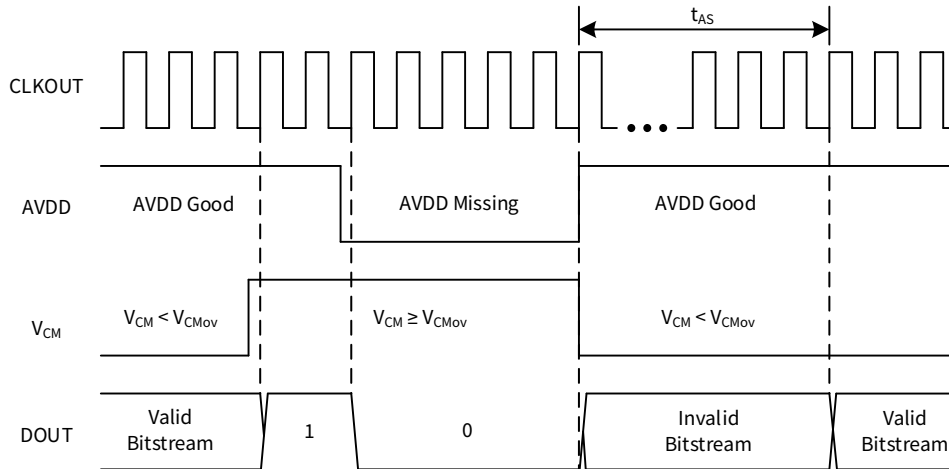
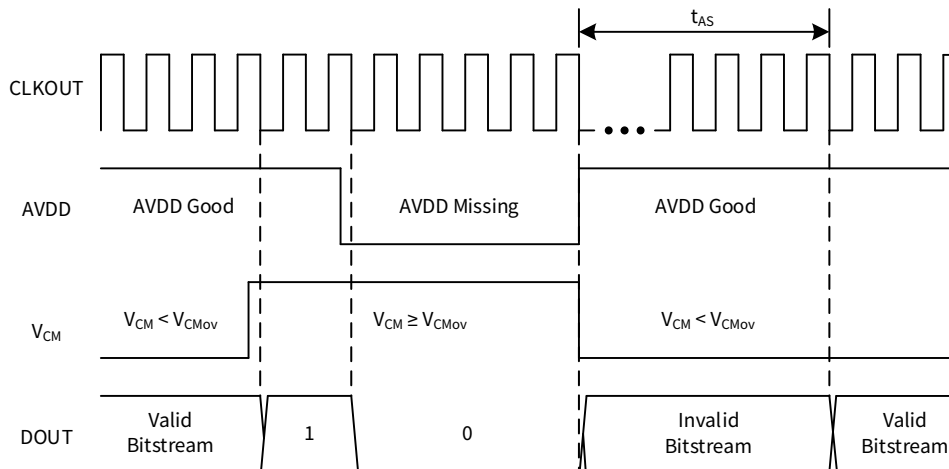

Figure 8.3 Fail-safe Bitstream Output of NSI1303Mx
Figure 8.4 Fail-safe Bitstream Output of NSI1303Dx
- When the undervoltage of AVDD is detected ($AVDD < AVDD_{UV}$), DOUT pin output a uncoded bitstream of all logic zeros, as shown in Figure 8.3 and Figure 8.4.
- When the overvoltage of common-mode input voltage is detected ($V_{CM} > V_{CMov}$), DOUT pin output a uncode bitstream of all logic ones, as shown in Figure 8.3 and Figure 8.4.